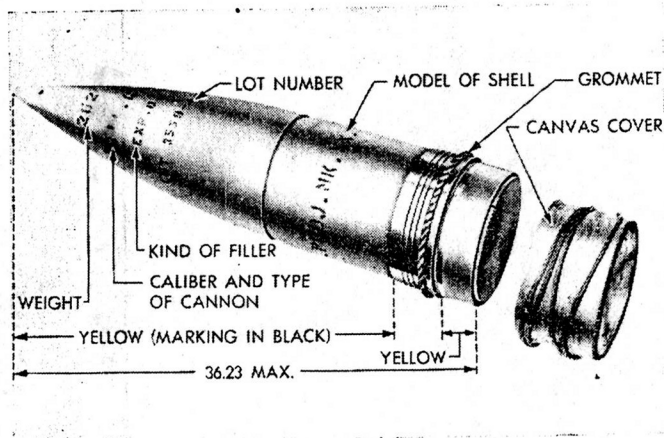

FIGURE 10.—A.P. projectile, Mk. XX, with B.D. fuze, Mk. X.
■ 36. FUZES.—*a.* Normally, the armor-piercing projectile, Mk. XX, equipped with base-detonating fuze, Mk. X, will be received properly fuze for firing (fig. 10).